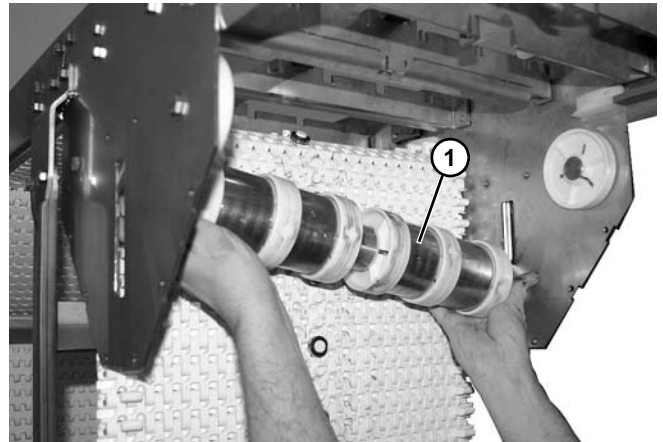

Figure 100
4. Tilt one end down and the opposite end upward, and install gravity take-up assembly (Figure 100, item 1).